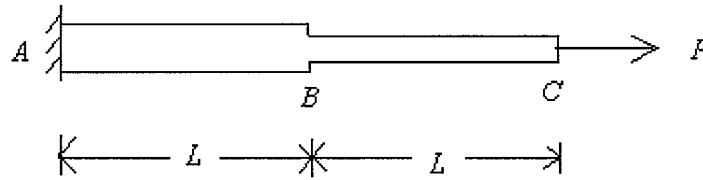

Fig. 1
- (1) Consider a two-section bar as shown in Fig. 1, in which the left hand side of the bar is clamped, and the right hand side is subjected to a concentrate load P . The strong form of this problem is given as follows: